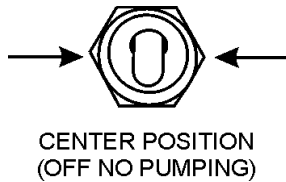

Figure 41. Pumping Switch (No Pumping)
2. Place the pump control switch (Figure 41) on the control panel in the center position (no pumping).